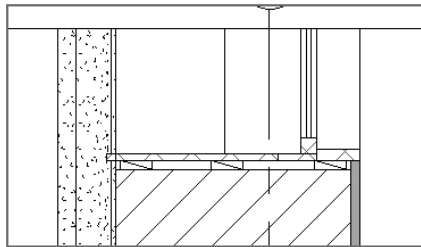

FIGURE 11.9 Inserting and placing the blocking
6. The component you insert will become the default component; you can see the name 06 Blocking in the Type Selector. Insert a piece of blocking at the left, right, and center of the sill (Figure 11.9).